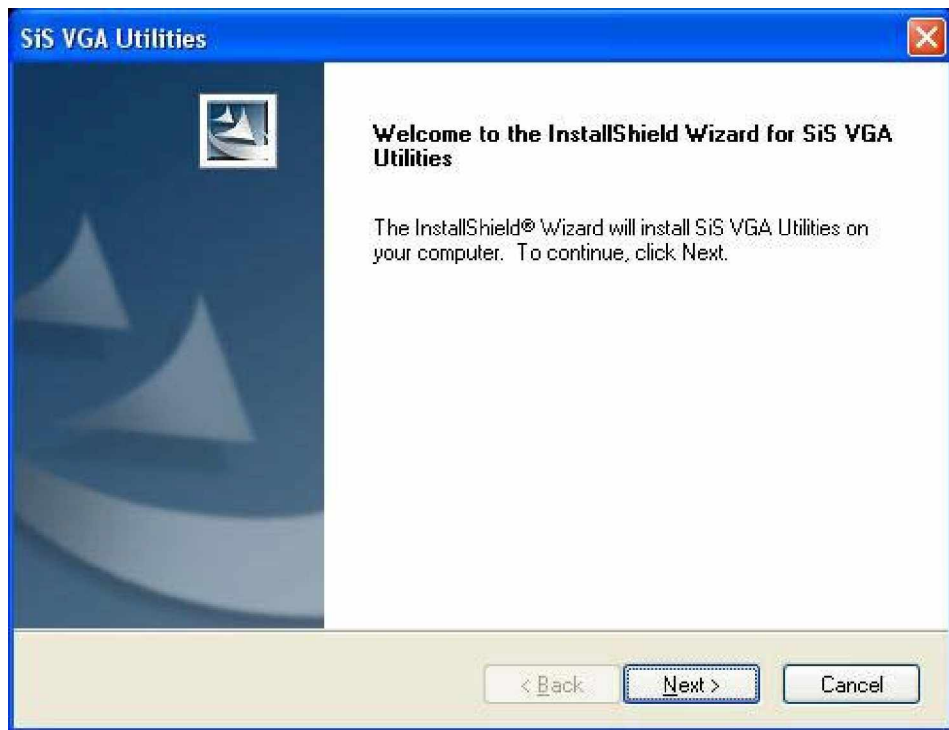

Figure 6-13: VGA Utilities Welcome Screen
- Step 2:** Once the **setup** icon is double clicked, a welcome screen shown in **Figure 6-13** appears.